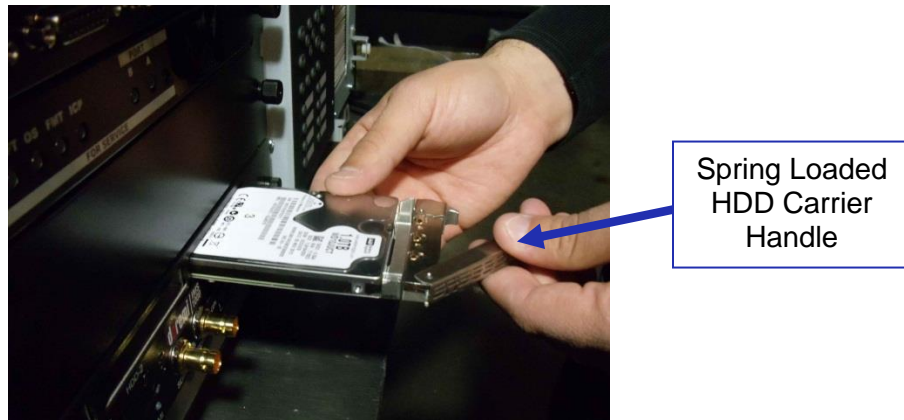

Figure 16: HDD Insertion
- With the carrier handle open, insert the drive all the way into the chassis cage (Figure 16).